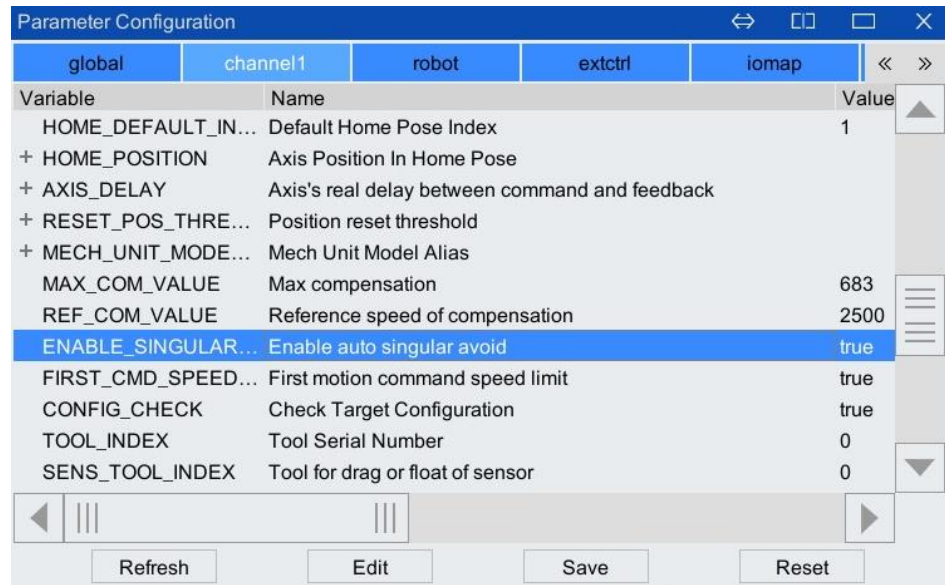

Figure 10-5 [Channel] tab
Step3. In the [Channel] tab, select [Whether to turn on the automatic singular point avoidance function (ENABLE\_SINGULAR\_AVOID)] and click the <Edit> button. As shown in Figure 10-5.